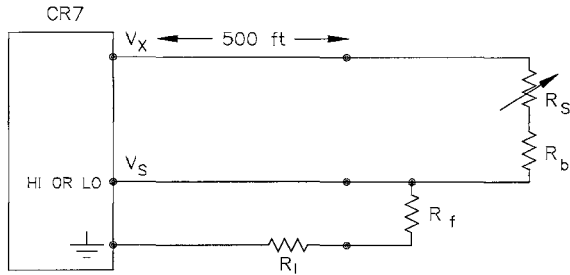

FIGURE 13.3-9. Incorrect Leadwire Extension on Model 107 Temperature Sensor
6. Most Campbell Scientific sensors are configured with a small bridge resistor, R_f , (typically 1 kohm) to minimize the source resistance. If the lead length of a Campbell Scientific sensor is extended by connecting to the pigtailed directly, the effect of the lead resistance, R_l , on the signal must be considered. Figure 13.3-9 shows a Campbell Scientific Model 107 sensor with 500 feet of extension lead connected directly to the pigtailed. Normally the signal voltage is proportional to $R_f / (R_s + R_b + R_f)$ but when the pigtailed are extended the signal is proportional to $(R_f + R_l) / (R_s + R_b + R_f + R_l)$. R_l is much smaller than the other terms in the denominator and can be discarded. The effect on the signal can be analyzed by taking the ratio of the signal with extended leads, V_{sl} to the normal signal, V_s :